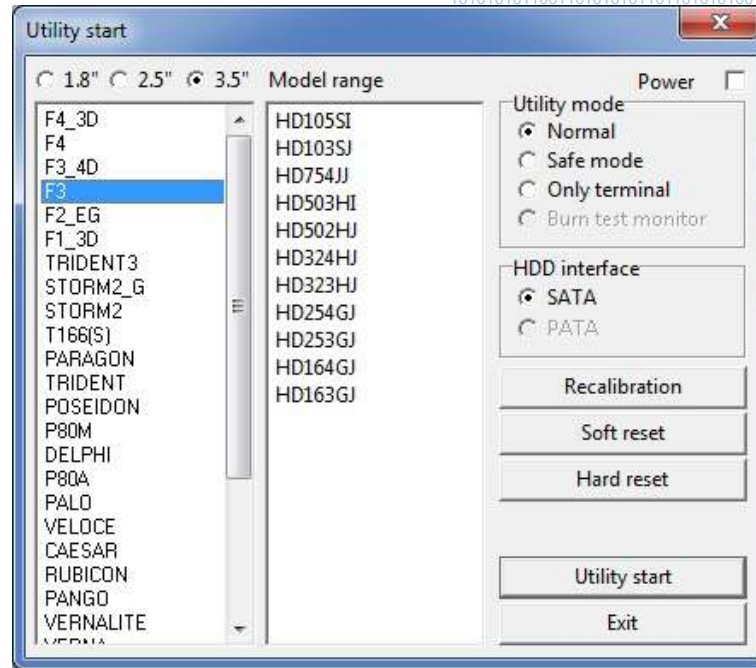

Fig.8.2.
- ◆ Select the family corresponding to your drive, the utility should be set to Safe mode (*Fig. 8.2*). For methods of drive family identification please see section 2